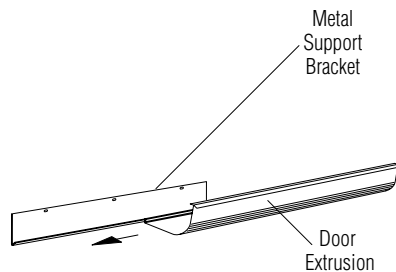

Figure 6
15. Slide the plastic door extrusion onto metal support bracket (Figure 6).